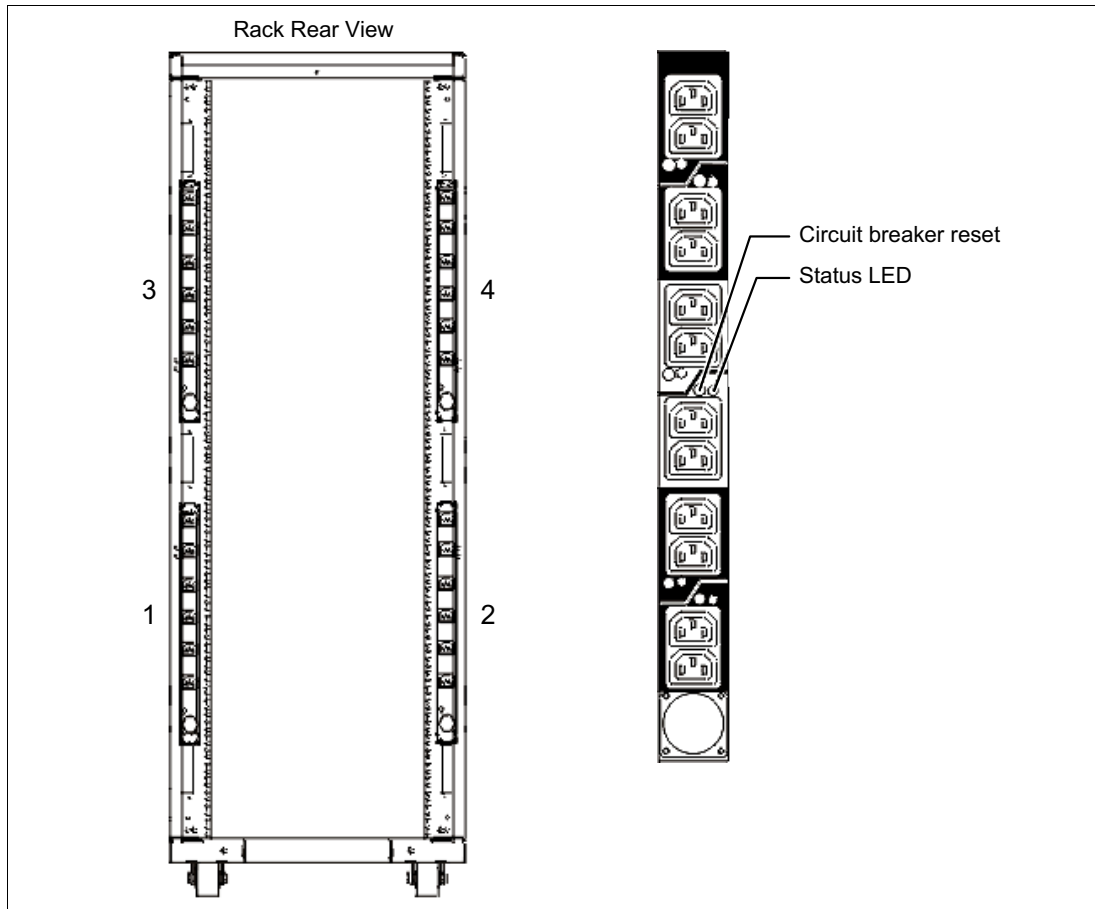

Figure 1-13 Power distribution unit placement and view
- ▶ Up to four PDUs can be mounted in the PDU bays (see Figure 1-13 on page 51), but others can fit inside the rack. For more information, see 1.12.7, “The AC power distribution unit and rack content” on page 50.
Four PDUs can be mounted vertically in the back of the T00 and T42 racks. Figure 1-13 shows the placement of the four vertically mounted PDUs. At the rear of the rack, two more PDUs can be installed horizontally in the T00 rack and three in the T42 rack. The four vertical mounting locations are filled first in the T00 and T42 racks. Mounting PDUs horizontally uses 1U per PDU and reduces the space that is available for other racked components. When mounting PDUs horizontally, the preferred approach is to use fillers in the EIA units that are occupied by these PDUs to facilitate proper air-flow and ventilation in the rack.